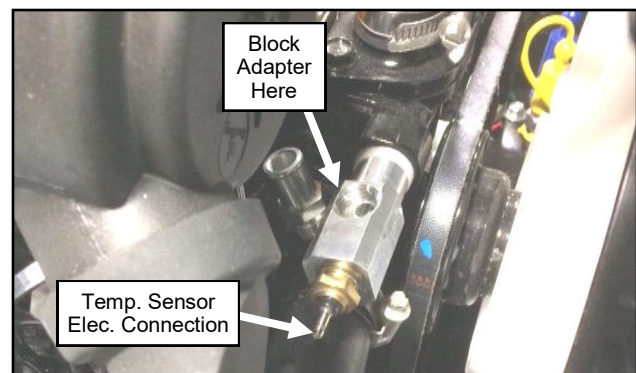

Figure 17.9 (Sending Unit Install)
- 17.9** Using the (3) supplied nylon washers as needed to seal the sending unit and have the threaded section point up as shown on figure 17.9.
- 17.10** Re-install brass washer and temperature sensor into the backside of the sending unit adapter per figure 17.9.